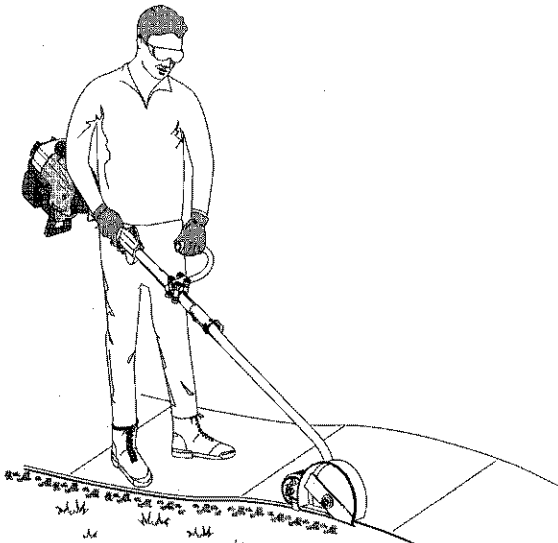

Fig. 16
Before operating the unit, stand in the operating position (Figs. 16). Check for the following:
- The edger wheel adjusted for proper cut depth and edger positioned as shown in Fig. 16.